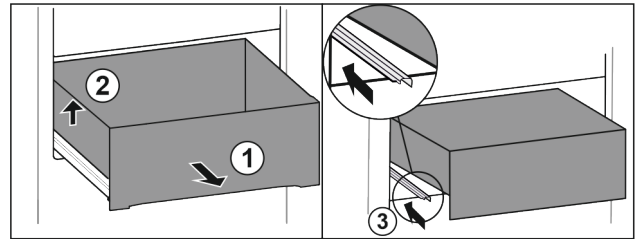

Fig. 83
- ▶ Pull out drawer as far as it will go. Fig. 83 (1)
- ▶ Lift drawer on the left. Fig. 83 (2)
- ▶ Slide in left rail. Fig. 83 (3)